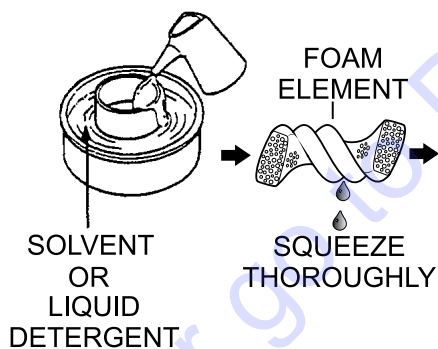

Figure 34. Cleaning Foam Element
8. Clean the foam air filter (Figure 34) element in warm soapy water, rinse and allow to dry thoroughly or clean with a nonflammable solvent and allow to dry. **DO NOT** pour any type of oil into the foam element.